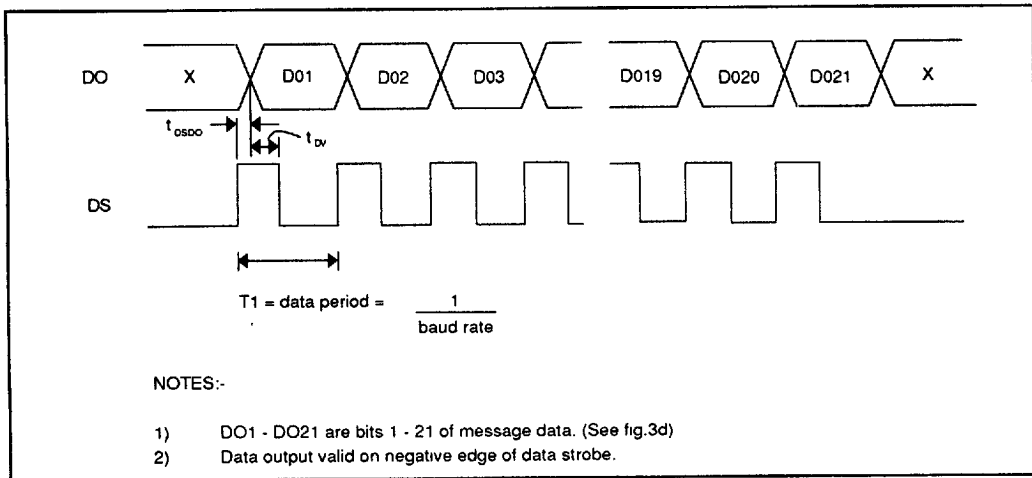

Fig 5 Data Output Timing
This circuit receives the incoming serial data and performs 2 bit CRC error correction according to the POCSAG standard on all incoming data. Together with the timing logic and pattern detector, this circuit maintains word sync and outputs corrected message data clocked on a positive edge of data strobe (DS) as shown in figure 5. If more than two errors are detected, no attempt is made at corrections and the data is outputted uncorrected with no indication of error.